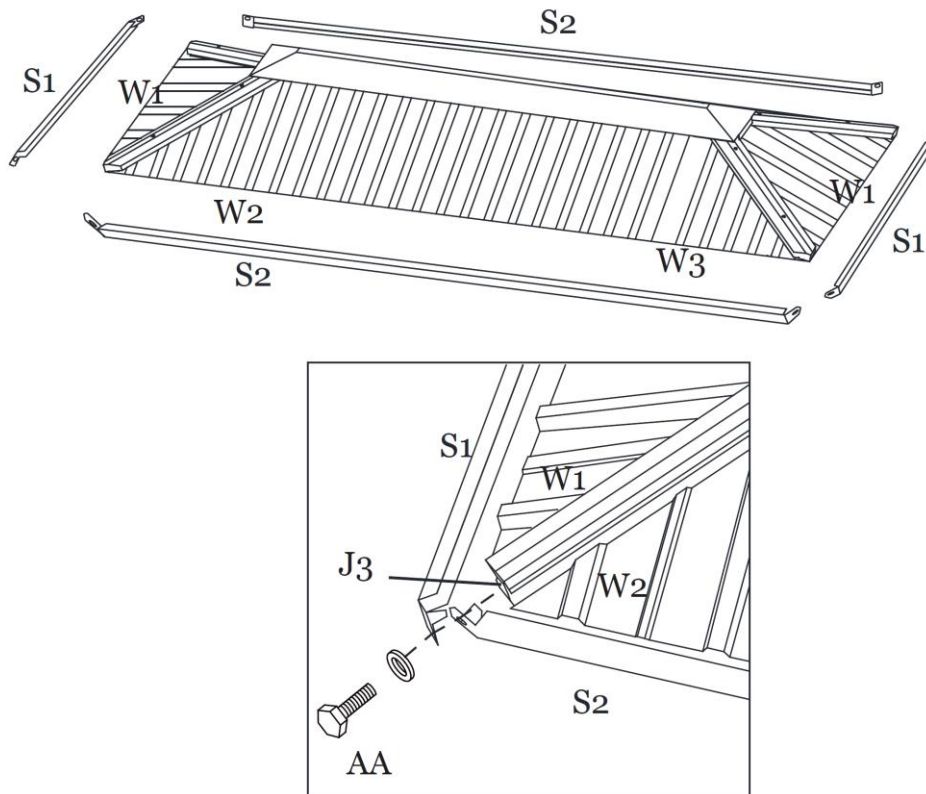

Figure 15-1
Step 15A: Attach the Short Roof Vent Side Trim (S1) and Long Roof Vent Side Trim (S2) to Roof Vent Support (J3) using Bolts/Washers (AA). Repeat for remaining sides. **Tighten all Bolts.** See Figure 15-1.